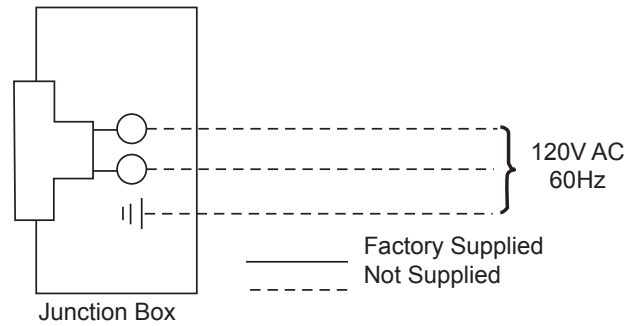

Figure 53 - Junction Box Wiring Diagram
3. The junction box cover has a factory installed "romex" style strain relief connector. After connecting the wires, route the wire leads through this connector. Refer to the wiring diagram in *Figure 53*.